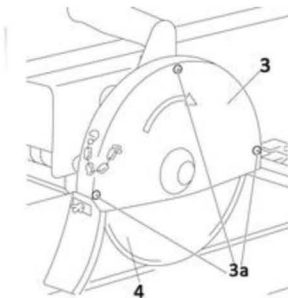

Fig.11
• **Changing the cutting wheel (Fig.11)**